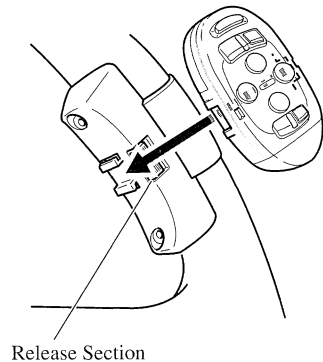

Fig. 13
4. Install the remote control unit in the holder. (Fig. 13)